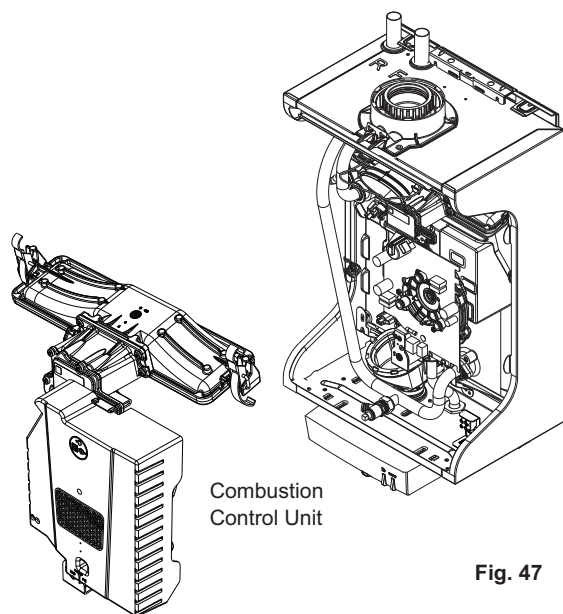

Fig. 47
10.3.10 Gas Valve (Figs. 47, 48 & 49)
5. Remove the combustion control unit from the boiler by releasing the over-centre catches that secure it to the heat exchanger (Fig. 47).